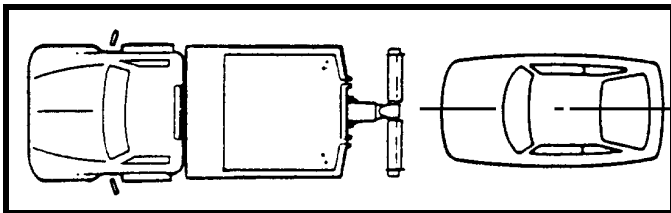

FIGURE 4A.1
- (a) Line the Wheel Lift up with the center of disabled vehicle to be towed. See Figure 4A.1.